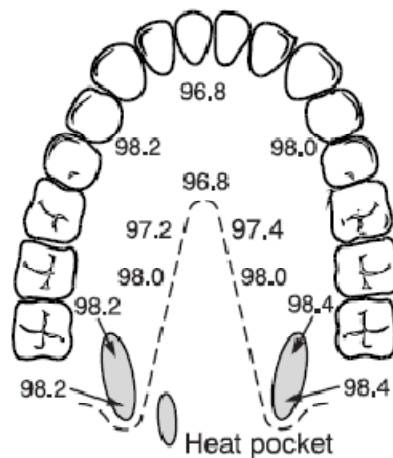

Figure 5.1
5. Have the patient open his or her mouth. Place the probe with attached cover in the heat pocket (sublingual pocket) at the back and either side of the mouth (see **Figure 5.1**).